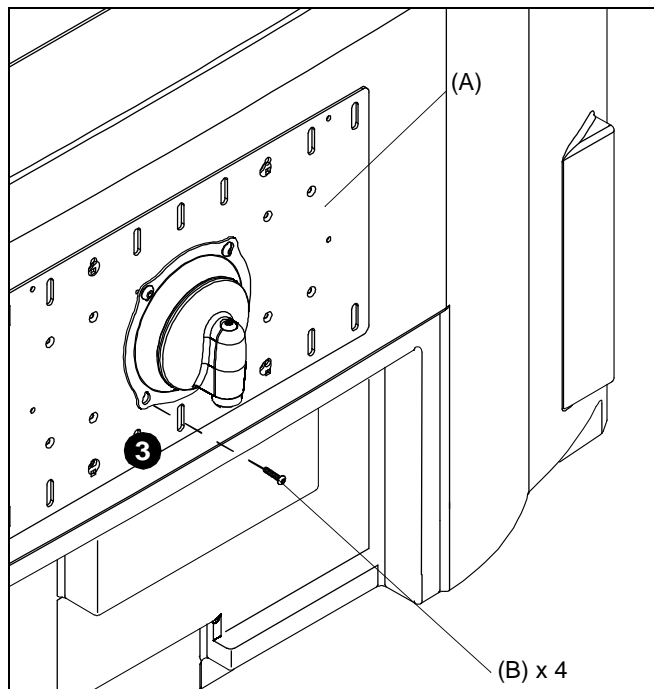

Figure 7
3. Hold display so that display back is against Centris cup and install two M4 x 8mm Phillips pan head machine screws (B) through lower mounting holes in Centris cup and into lower mounting holes in interface bracket (A). (See Figure 7)